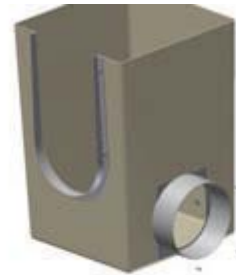

Figure 6.8
- Press the catch basin outlet onto the catch basin. Ensure the joint is properly sealed. See Fig 6.8